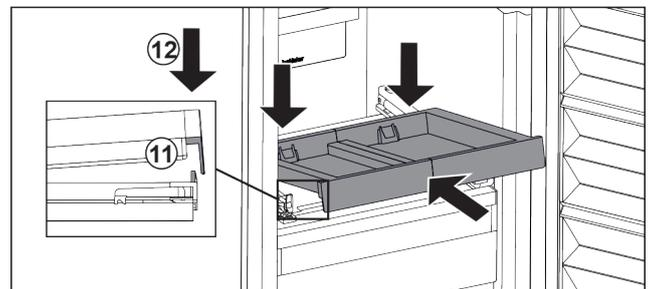

Fig. 22
- ▶ Slide in at an angle. Make sure that the stop is behind the lug on both sides. Fig. 22 (11)
- ▶ Lower the pull-out board at the front. Fig. 22 (12)